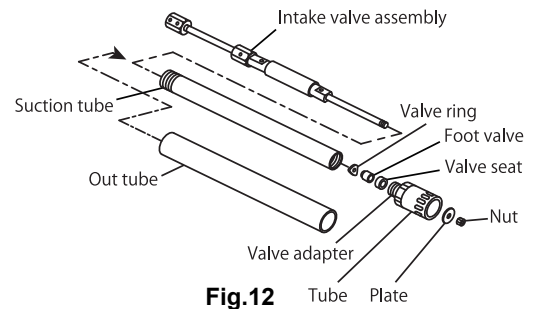

Fig.12
- 12) Insert the intake valve assembly to the suction tube. (Fig.12)
- 13) Insert the valve ring, the foot valve and the valve seat in order. Be sure the direction of each part is correct. (Fig.12)
- 14) Thread the valve adapter to the tube. Install the plate with the nut. (Fig.12)